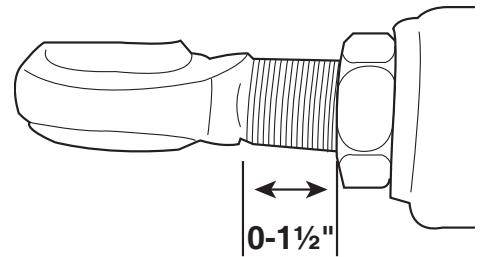

Figure 11
**CAUTION:** There must be no more than 1½" of thread showing on the heim joint (Figure 11).